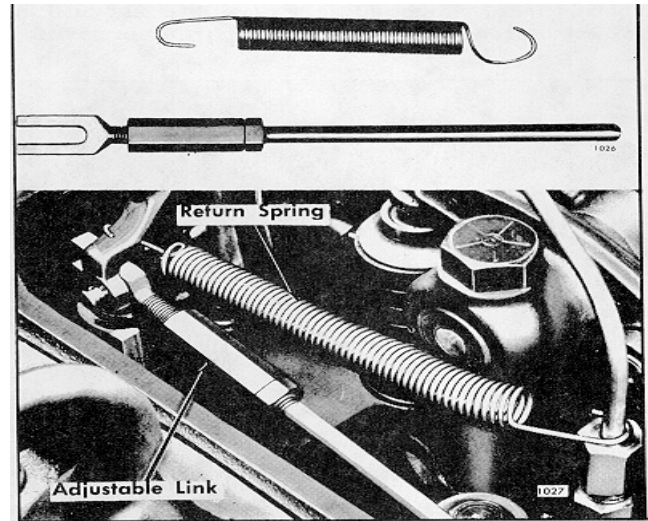

Fig. 5 Low Speed Spring Gap Adjustment
Check the gap between the low speed spring cap (61) and modulating spring plunger (57) with a .0015" feeler gage, Fig. 5.